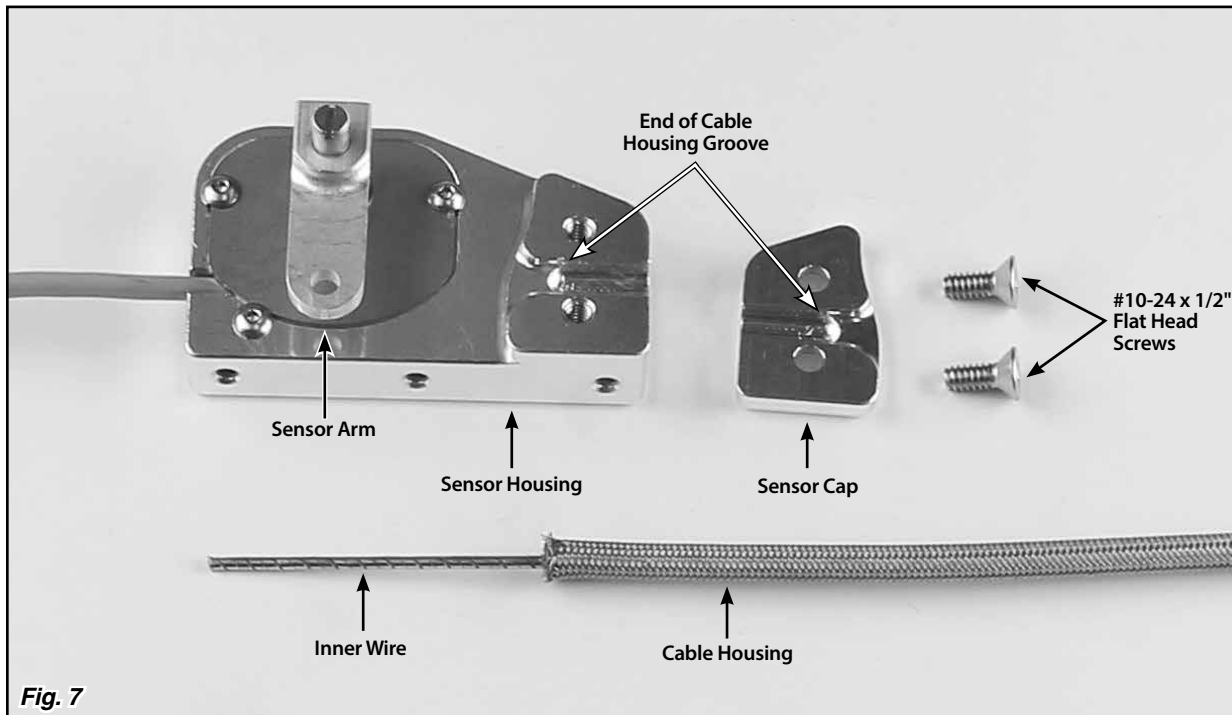
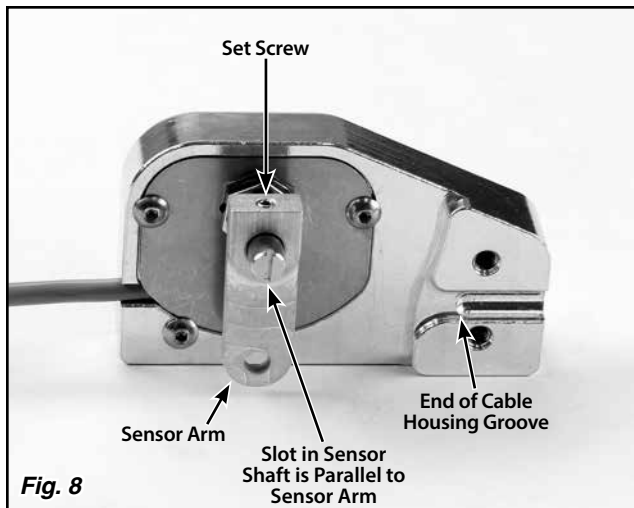

Fig. 7
Fig. 8
Step 3: Remove the sensor cap by removing the two #10-24 x 1/2" flat head screws using a 1/8" Allen wrench and separate the cable housing from the sensor. **Fig. 7**
Step 4: Make sure the sensor arm is parallel to the slot in the sensor shaft, with the set screw in the top of the sensor arm aligned with the slot. If it is not, loosen the set screw in the top of the sensor arm using a 1/16" Allen wrench, and adjust the position of the sensor arm on the shaft. **Fig. 8**
There is a groove in the sensor housing the end of the cable housing fits in to. Mark the cable housing at the end of the cable housing groove. Remove the cable housing from the adjustable cable mounting bracket. **Fig. 7 and Fig. 8**